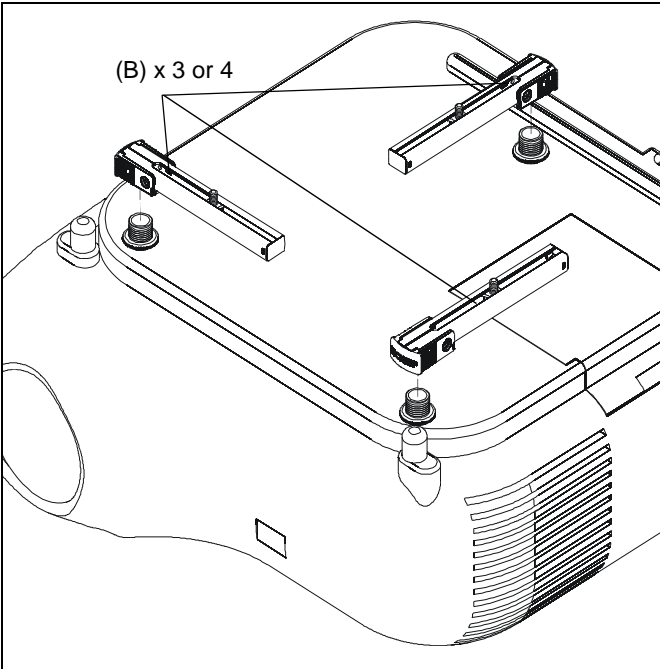

Figure 4
4. Place SLBU/SLMU legs (C) over screw adapters and height-adjustment nuts. (See Figure 4)